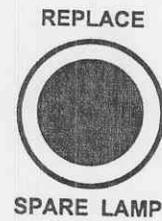

Figure 1-5. REPLACE SPARE LAMP indicator.
d. *"REPLACE SPARE LAMP" indicator (fig 1-5).* Each of the two amber indicators is used to indicate that a spare lamp is missing or defective.